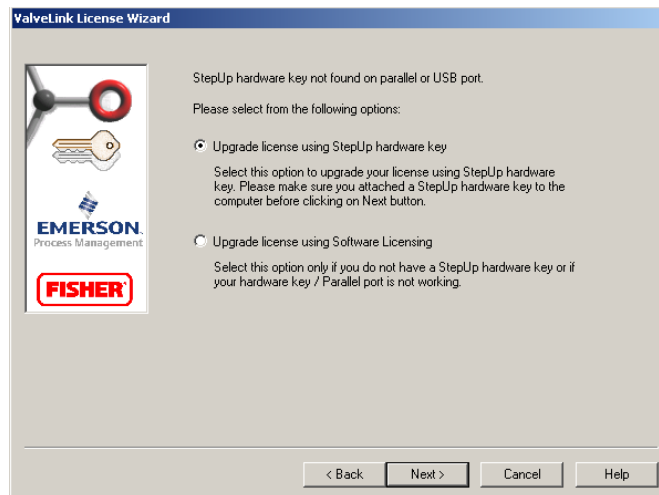

Figure 7-5. Upgrade Using StepUp Hardware Key
- Step 3:** Select the Upgrade license using StepUp hardware key option button as shown in figure 7-5. Follow the License Wizard steps as directed.